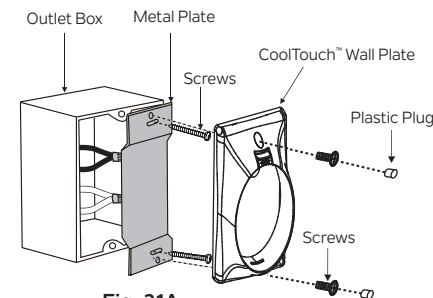

Fig. 21A
Step 4. Install the metal plate and the CoolTouch™ wall plate to the existing wall outlet box with the screws provided. Insert the two plastic plugs into the wall plate. (Fig. 21A)